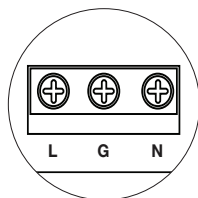

Fig. 1
1. Secure cabinet to earth ground. Connect AC power from overcurrent protective device circuit breaker (20A @ 115VAC, 60Hz, 16A @ 230VAC, 50/60Hz) to the terminals marked [L, N] on power supply board (*Fig. 1, pg. 4*). Use 14AWG or larger for all power connections (Battery, DC output, AC input).